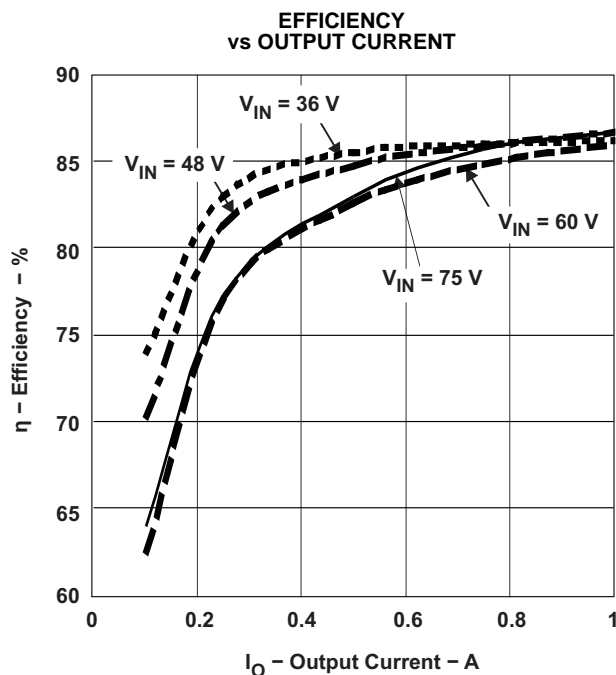
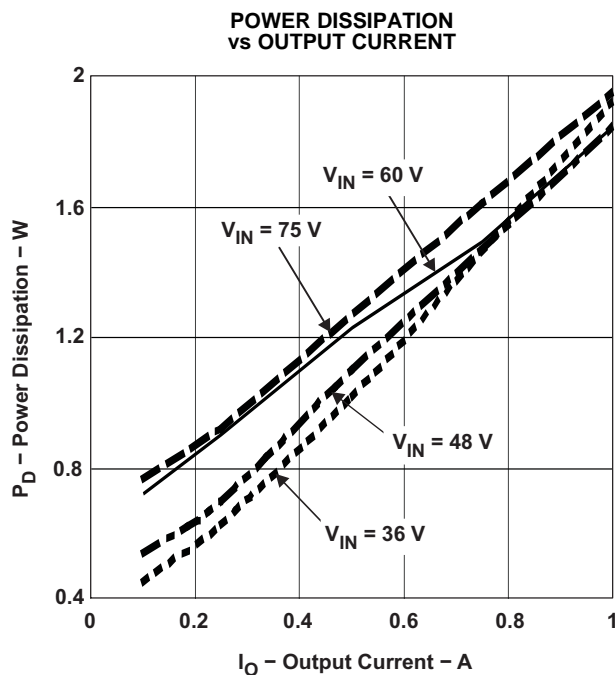
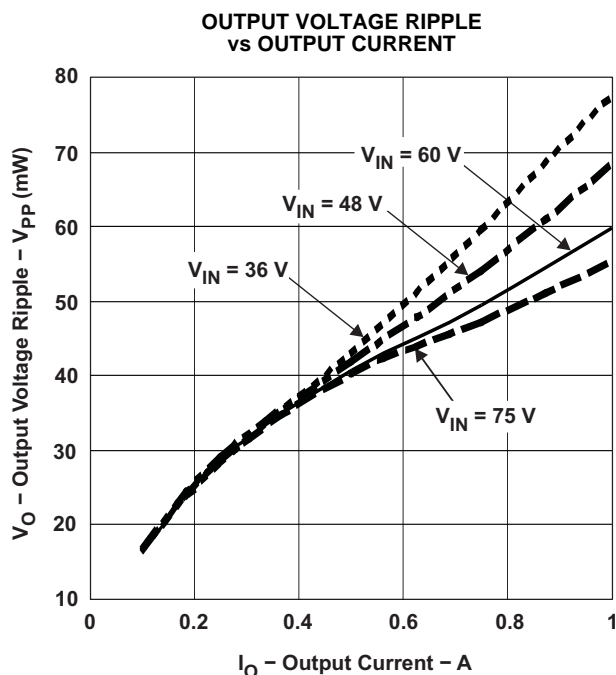

Figure 9.
Figure 10.
Figure 11.
- (5) All data listed in Figure 9, Figure 10, and Figure 11 have been developed from actual products tested at 25°C. This data is considered typical data for the dc-dc converter.